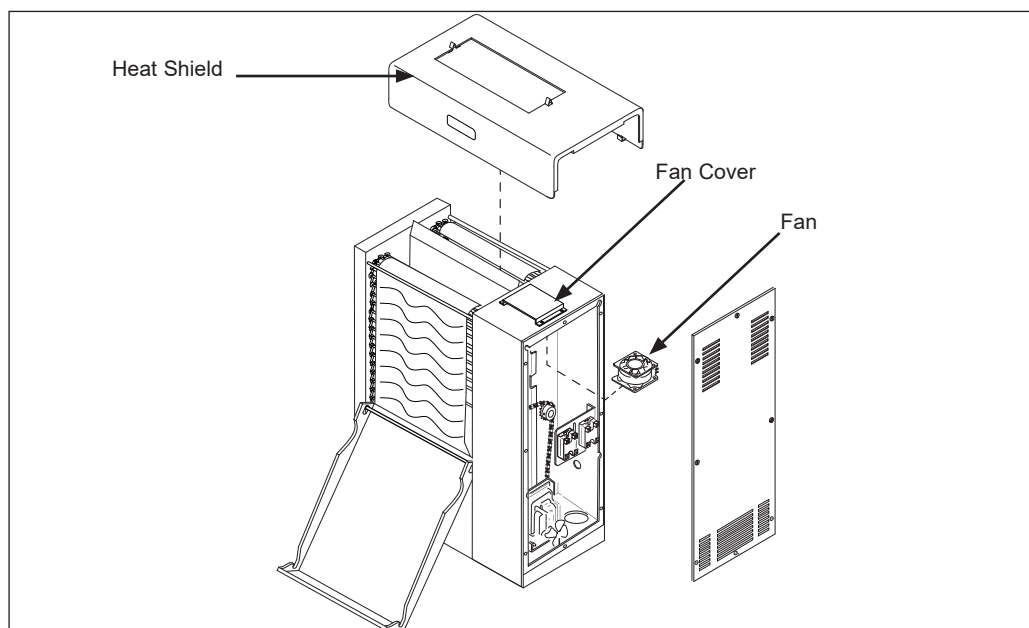

Figure 14. Fan, Fan Cover, and Heat Shield
2. Refer to Figure 14 below. Remove the heat shield to access the fan cover.